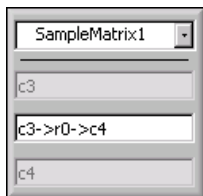

Figure 7. Device Window
- a. Click the **Add Switches** button. A device window appears, as shown in Figure 7.